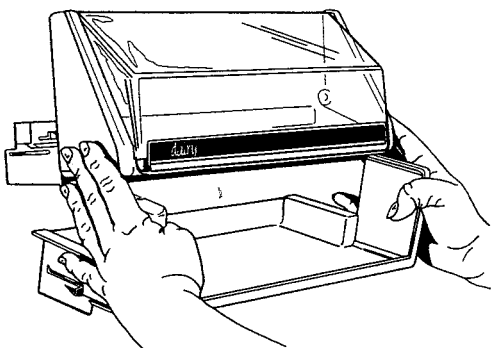

Figure 14.
e. Gently pull down. See Figure 14.